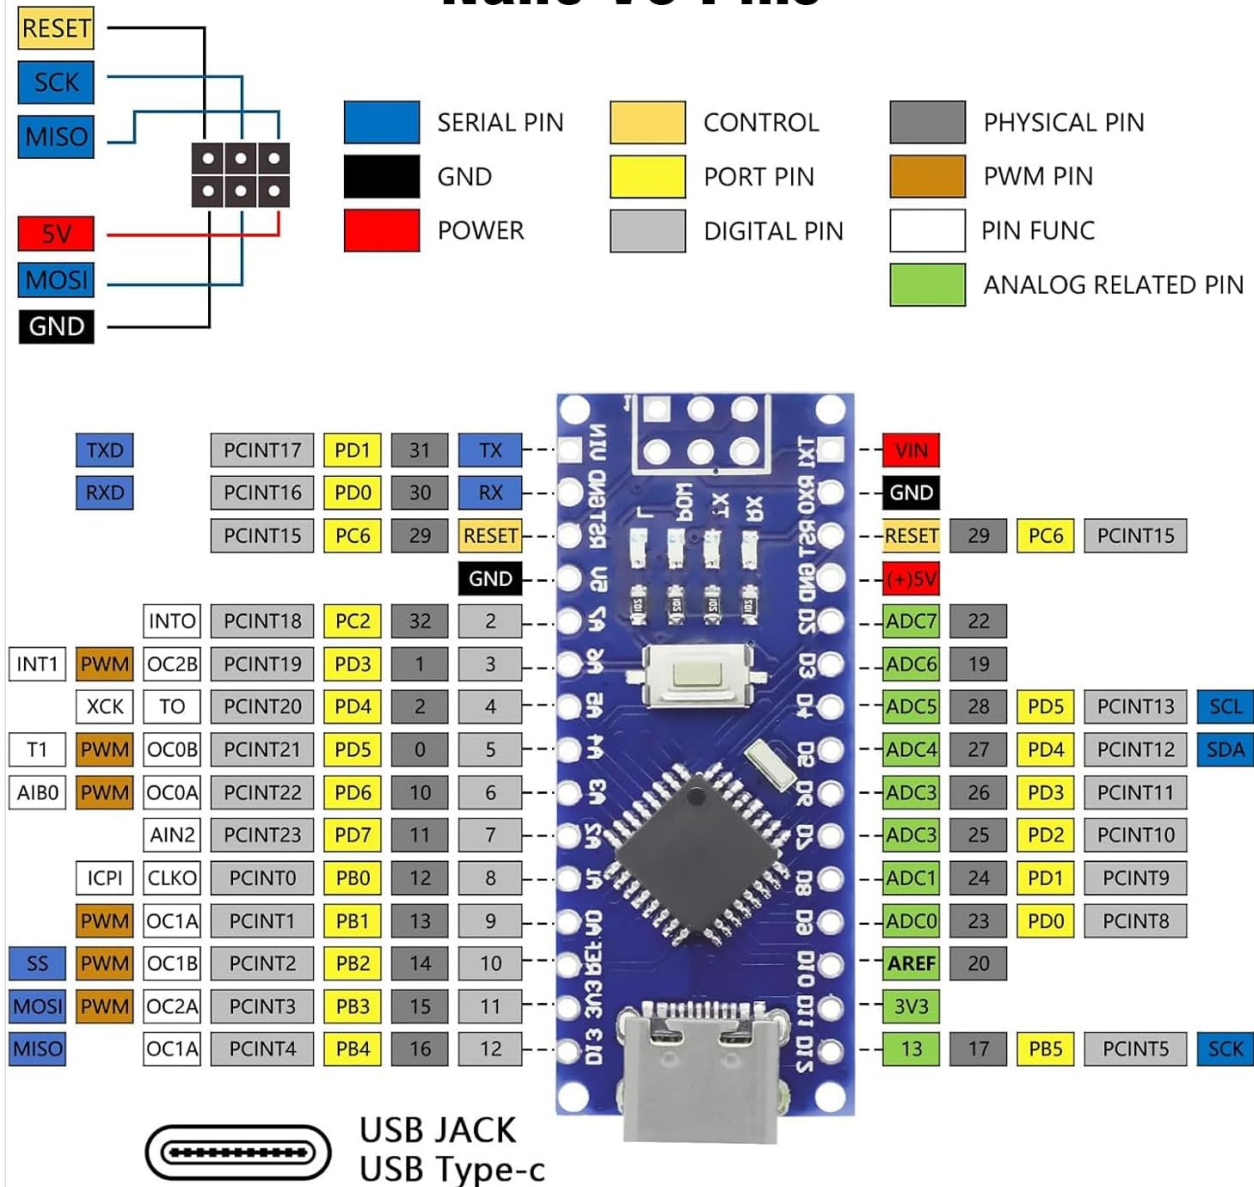

Figure 6: Nano V3.0 Pinout Diagram
- **Pinout Confusion:** Always refer to the pinout diagram (Figure 6) when making connections to ensure correct wiring. Incorrect wiring can damage components.